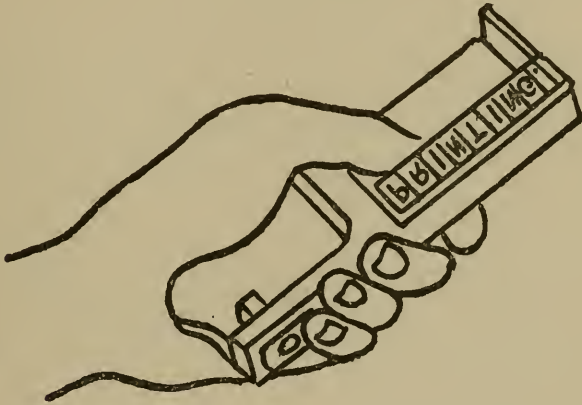

FIG. 67. HOW TO HOLD A COMPOSING STICK
*Setting the Type.*— Where you have more than one line to set you should by all means use a *composing stick* and a small one will cost you a dollar. It should be held in the left hand as shown in Fig. 67, that is, with the open side from you and the slide to the left.